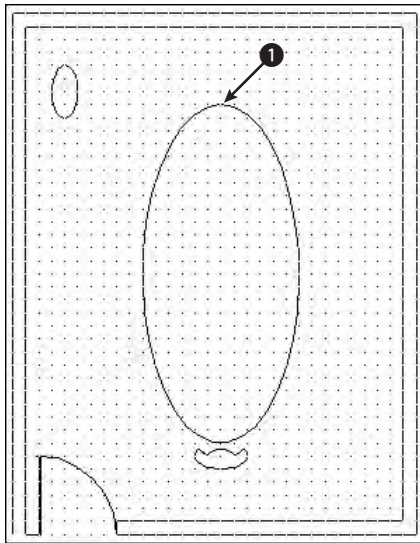

Figure 9-8: The conference room
2. Save the file as `ab09-05.dwg` in your **AutoCAD Bible** folder. This drawing shows a conference room, as shown in Figure 9-8.
9. At the **Specify base point or displacement, or [Multiple]:** prompt, locate the **Center** object snap to pick the center of the arc that makes up the back of the chair. (Press Tab to cycle through the object snaps if necessary or move the cursor over the arc itself, or its center.) At the **Specify second point of displacement or <use first point as displacement>:** prompt, pick point ❶ in Figure 9-8. This point doesn't have to be exact.